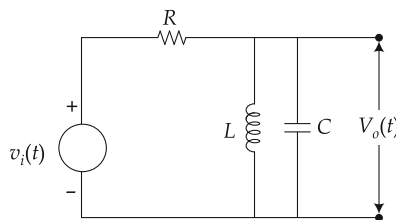

Fig. 2.63
5. Derive the transfer function of the electric circuit shown in Fig. 2.63.